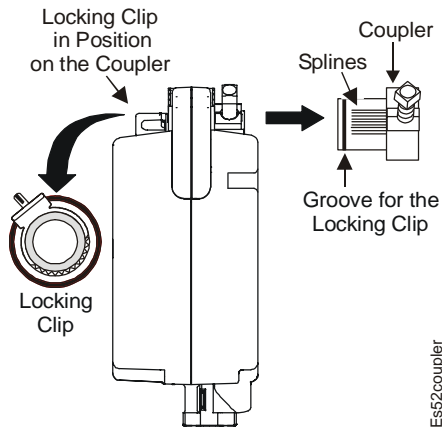

Figure 3: Changing the Position of the Coupler
To change the coupler position, see Figure 3 and proceed as follows:
The coupler splines (Figure 3) are designed to prevent insertion of the coupler at the wrong end of the rotation range.
- Remove the locking clip from the coupler. (See Figure 3.)